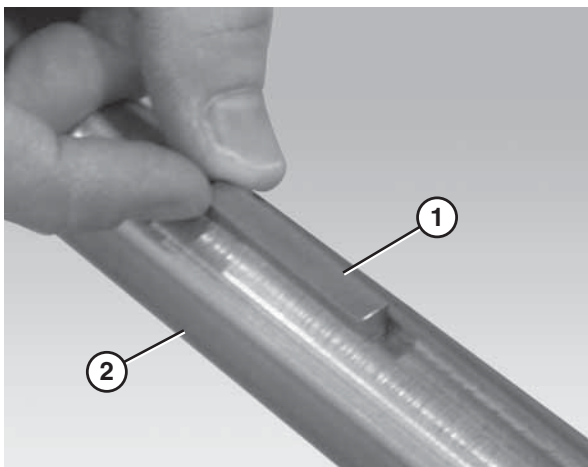

Figure 21
2. Insert the drive spindle key (Figure 21, item 1) into the drive spindle keyway (Figure 21, item 2).